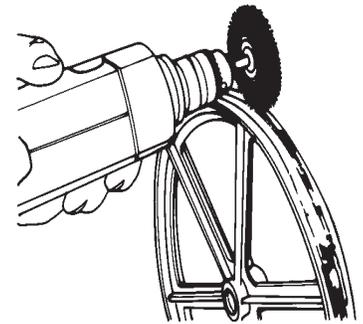

Fig. 8
6. Attach a wire brush wheel to an electrical drill. Use the brush to strip away rubber still adhering to the wheel. (See Figure 8.)